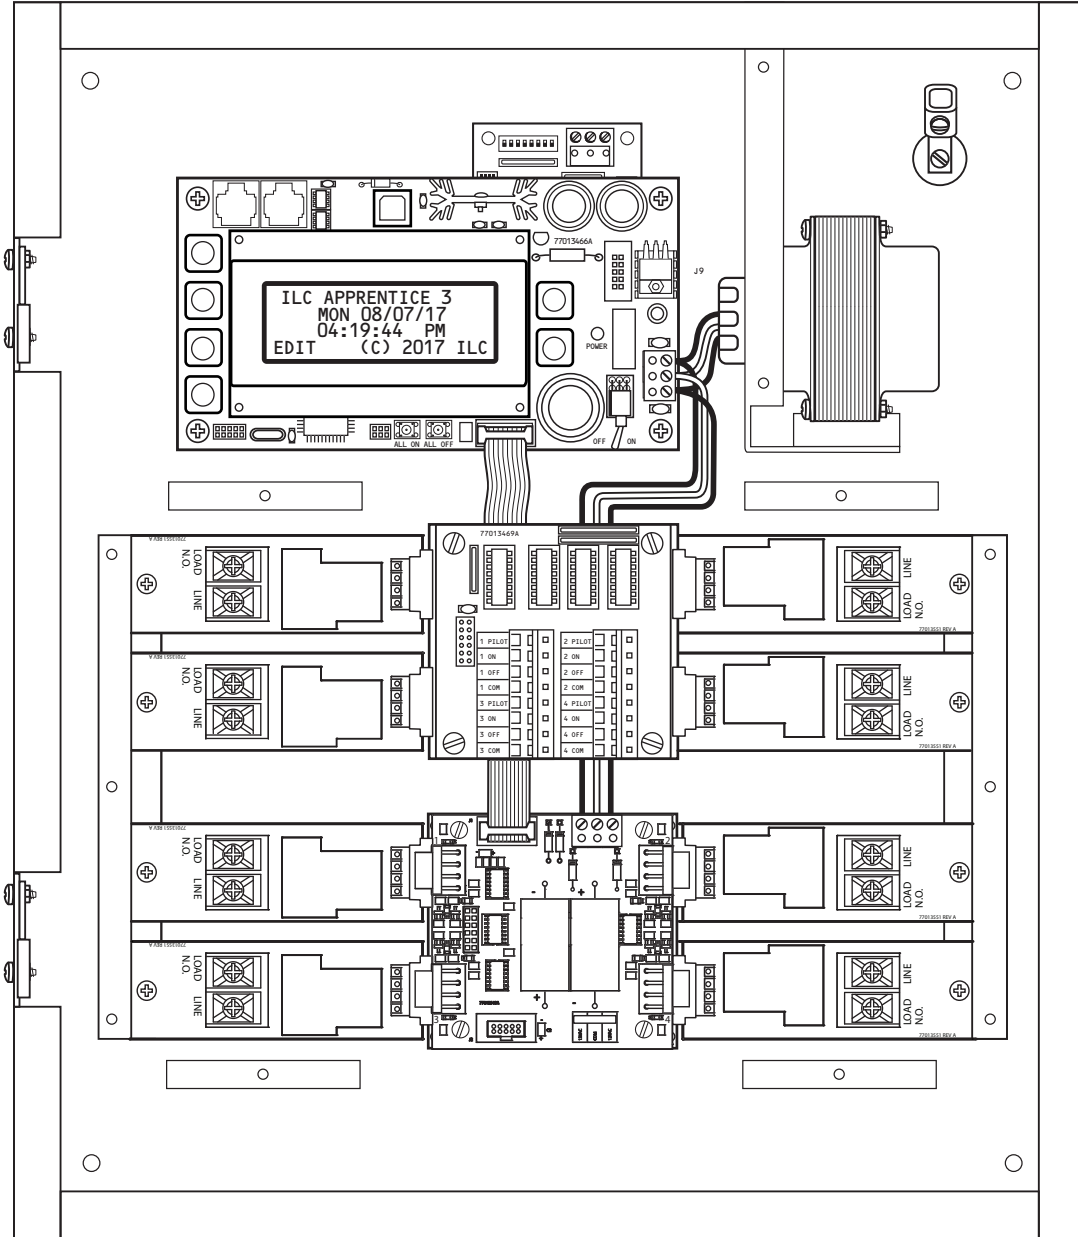

Figure 1.3 – ILC Apprentice 3 08 with standard 4-inputs
1.1.4 Input Board(s) – Each Input board adds four (4) switch inputs and pilot outputs. The inputs are all optically isolated. Additional boards can be added to the enclosure to provide a network capacity of up to 48 switch inputs. (See Figure 1.3, which illustrates a ILC Apprentice 3 8. Major components include: